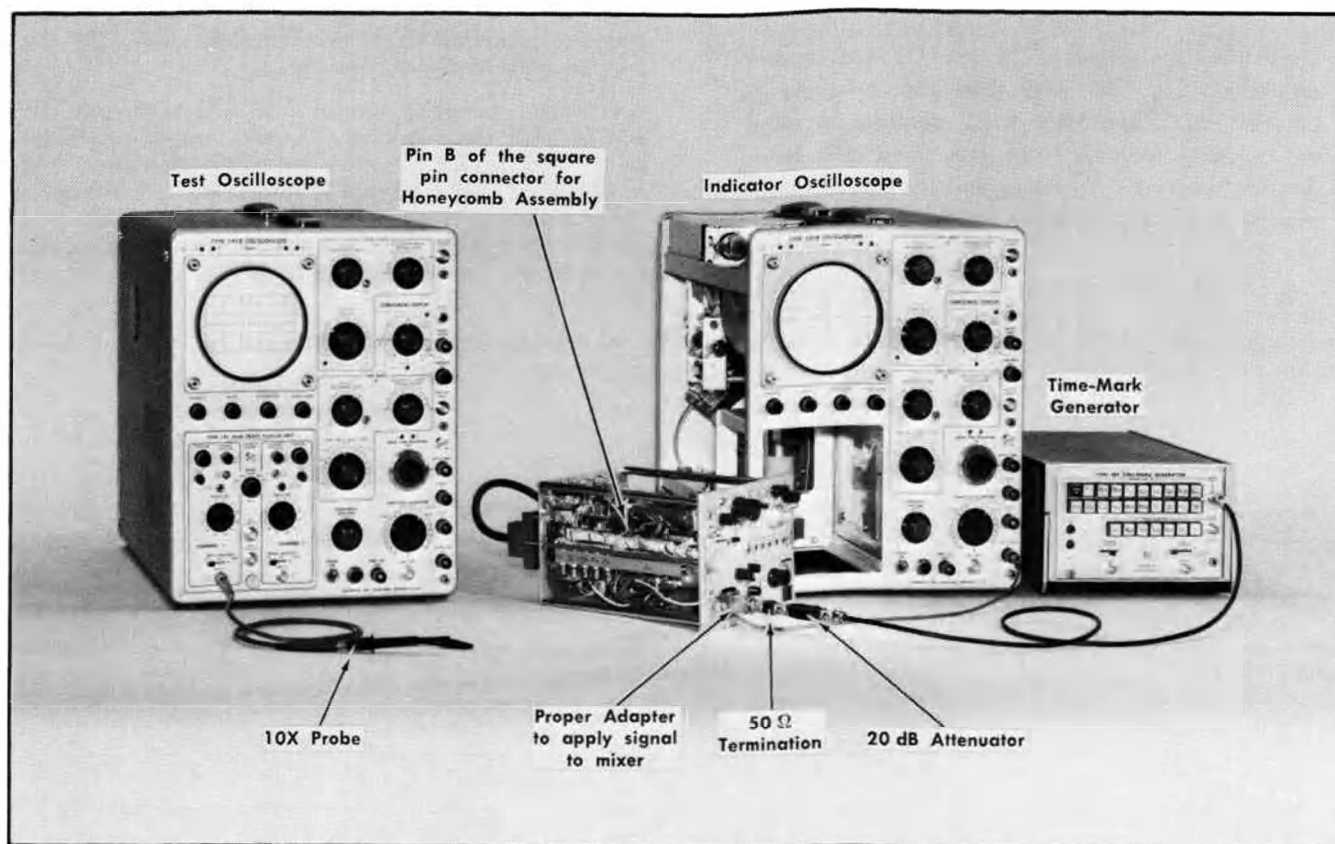

Fig. 5-5. Equipment setup to adjust the IF amplifier response and the resolution bandwidth (step 3).
a. The equipment setup for this step is shown in Fig. 5-5.
a. The equipment setup is shown in Fig. 5-5.